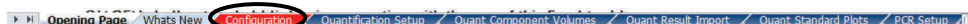

Figure 37. Opening the "Configuration" worksheet.
1. Open the QIAGEN Quantification Assay Data Handling Tool. Click the "Configuration" worksheet tab (Figure 37).